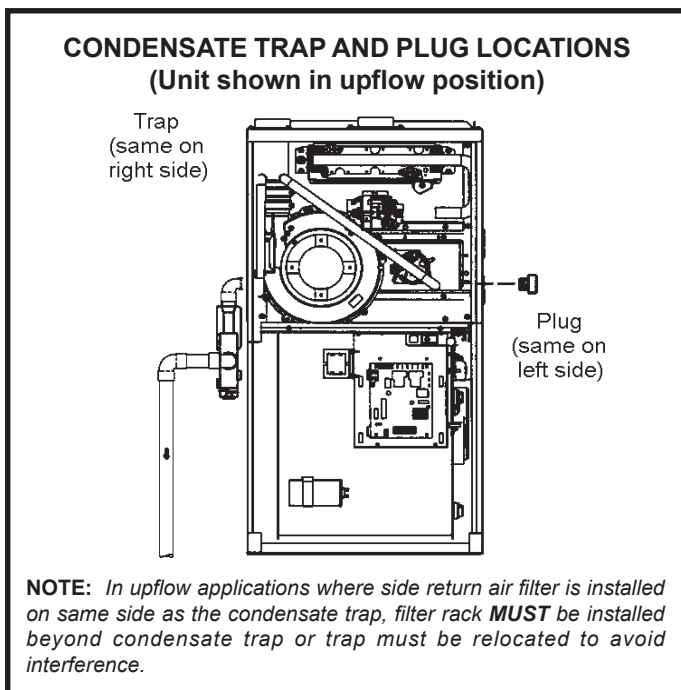

Figure 30
2. Remove plug (Figure 30) from the cold end header box at the appropriate location on the side of the unit. Install field-provided 1/2 NPT male fitting into cold end header box. Use Teflon tape or appropriate pipe dope.